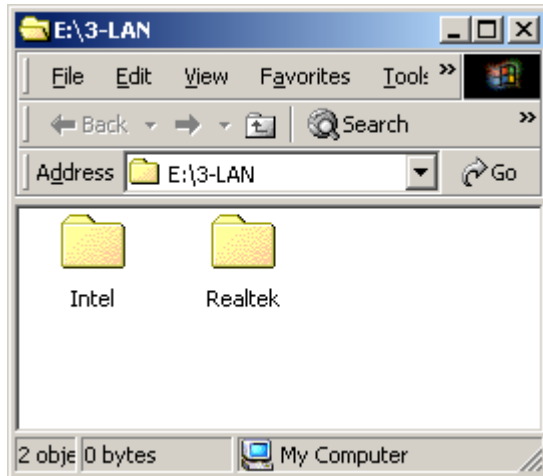

Figure 7-25: LAN Window
Step 2: A new window opens (Figure 7-25).